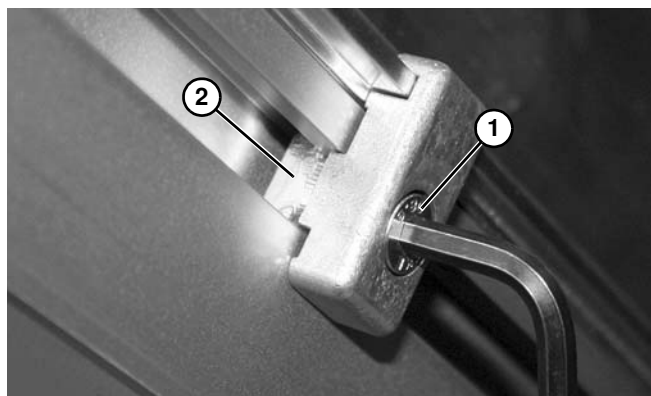

Figure 21
2. Tighten screw (**Figure 21, item 1**) making sure t-bar (**Figure 21, item 2**) rotates and engages inside of t-slot.